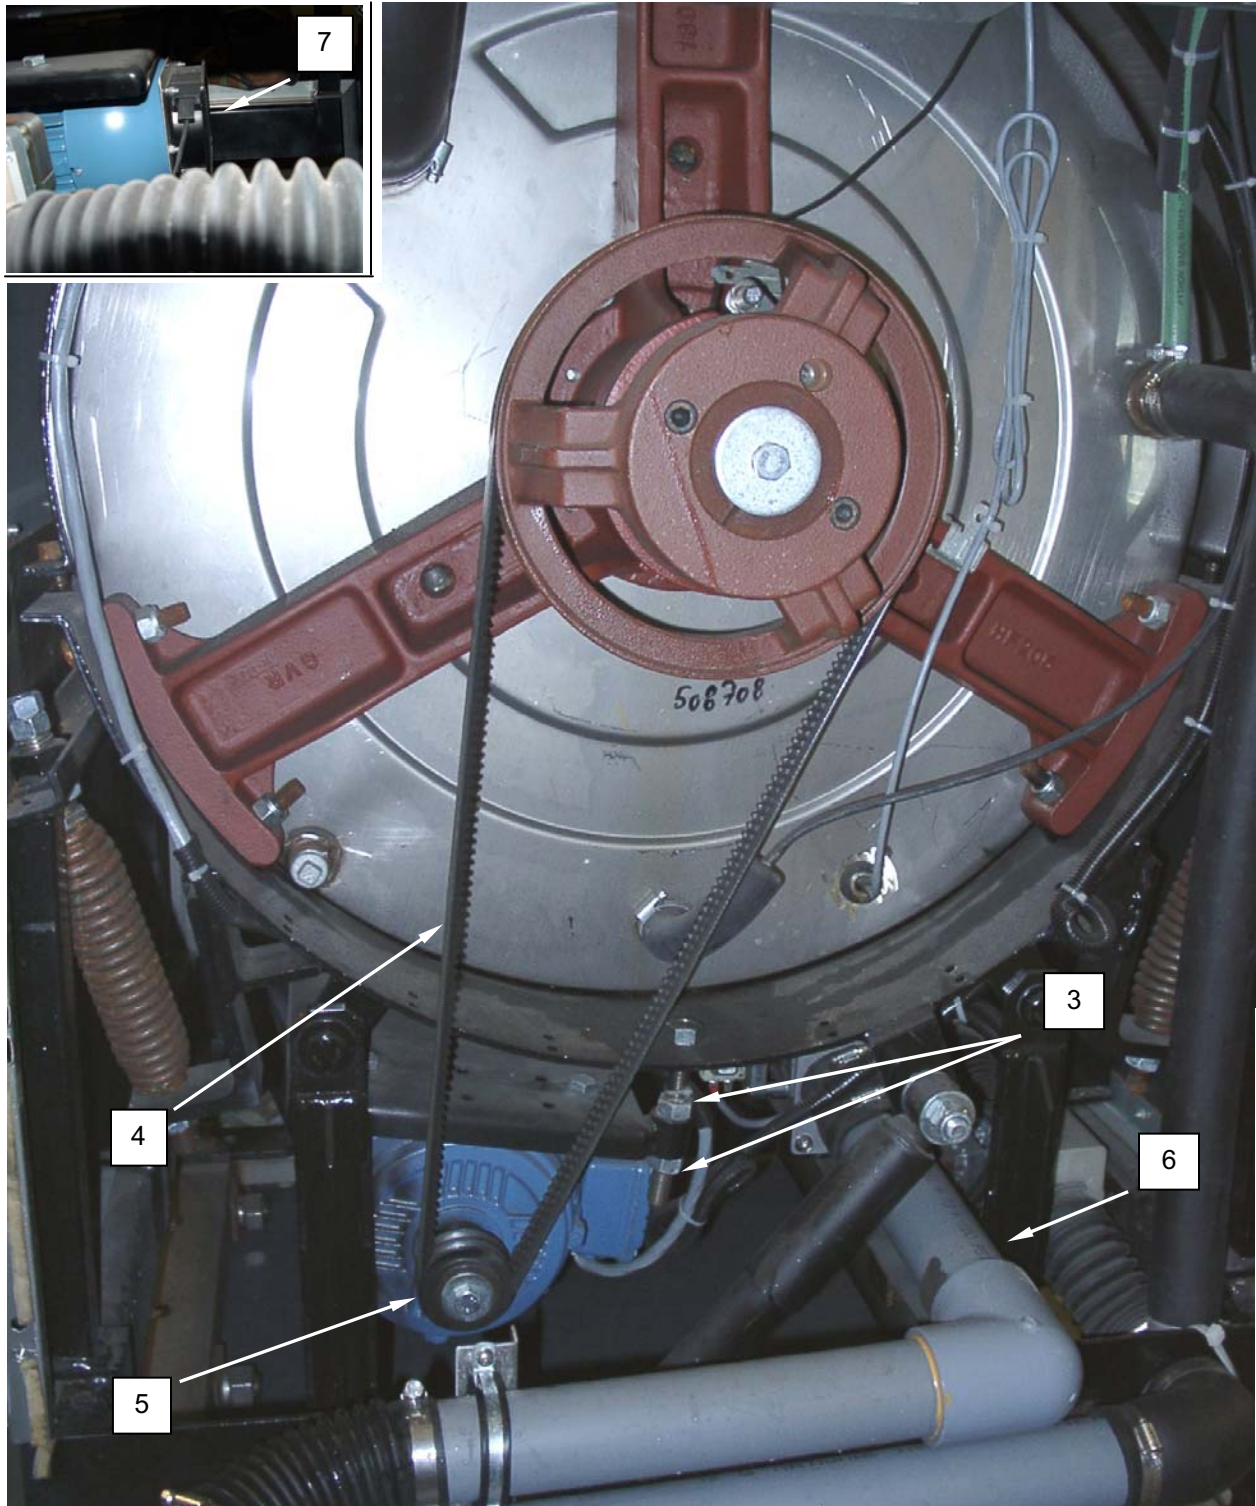

Figure 2. Replace the Washer Motor.
2. Adjust and tighten locknuts (**Figure 2, Item 3**) on adjustment bolt as necessary to relieve tension on belt.
3. Remove belt (**Figure 2, Item 4**) from pulley (**Figure 2, Item 5**).
4. Remove the reuse drain line (**Figure 2, Item 6**) from the reuse drain valve.
5. Disconnect motor fan (**Figure 2, Item 7**) leads.